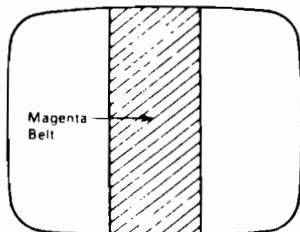

Figure 4
3. Pull the Deflection Yoke backward so that the Magenta belt will appear. (See Fig. 4)